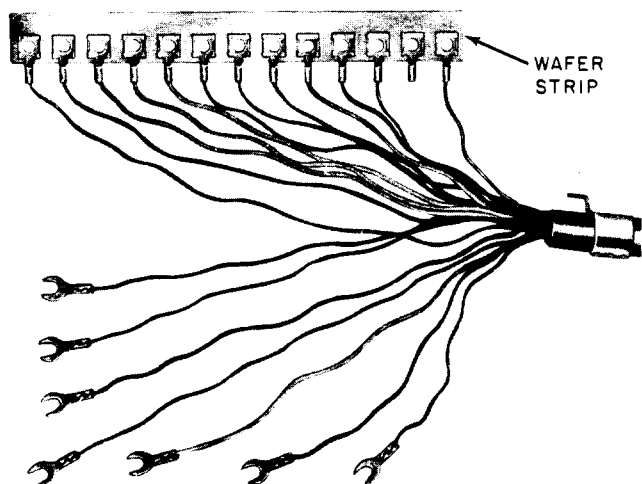

Fig. 1—Nonslotted Wafer Strip End of Mounting Cord, Early Type
**2.07** Remove mounting cords of early manufacture (Fig. 1) as follows: